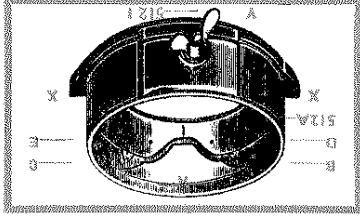

Fig. 5
The cam shell (Fig. 5) contains the steel cams, A, B, C, which raise and lower the cylinder or plain needles; it rests upon the base and is kept in position by the cylinder round which it revolves. The cam shell is adjustable by means of the wing nut (512F) on the outside of the cam shell. Between this wing nut and the shell is a pointer (512E) which indicates upon the index plate (512L) the position of the longest stitch lowest point (6) makes the longest stitch or loosest tension, and the highest point (1) makes the shortest stitch or highest tension. The large wing nut (512I) is for securing the ribber arm (513A) to the cam shell. The two lugs (X) on opposite sides are for driving the cam shell; the one on the left drives forward and the one on the right drives backward. Round the inside of the cam shell is a ledge on which the feet of the needles rest, when not being raised or lowered by the cams A, B or C. Cams B and C raise the needle, cam A depresses the needle and the cover plates (D and E) of cams B and C raise the needles on to the ledge again after cam A has depressed them.